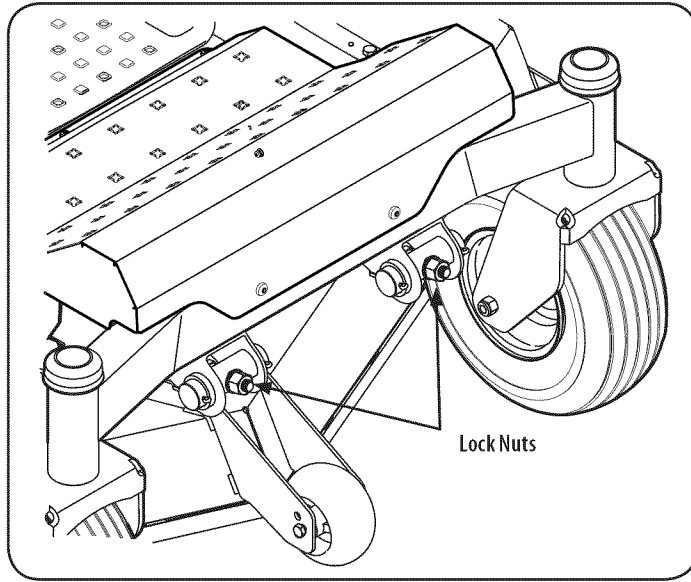

Figure 30
5. Using a wrench, raise or lower the front of deck by turning lock nut on the front deck lift rod and secure with the rear jam nuts. See Figure 30.